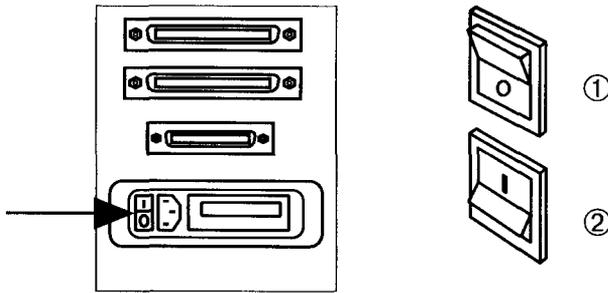

Figure 2.2. Left, location of power switch.
- Step 2: Make sure that the PCR II Plus power switch is in the OFF position. The power switch is located on the rear panel. See Figure 2.2.
- Step 3: Connect the female end of the power cord supplied with the film recorder to the three-pronged socket on the rear panel. See Figure 2.2.